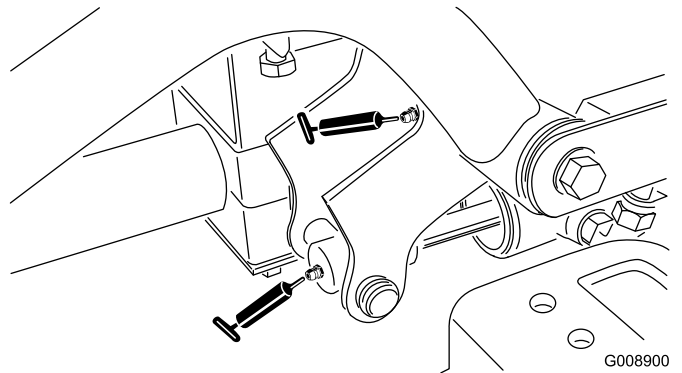

Figure 56
- Right front lift arm pivot and lift cylinder (2) (Figure 56)